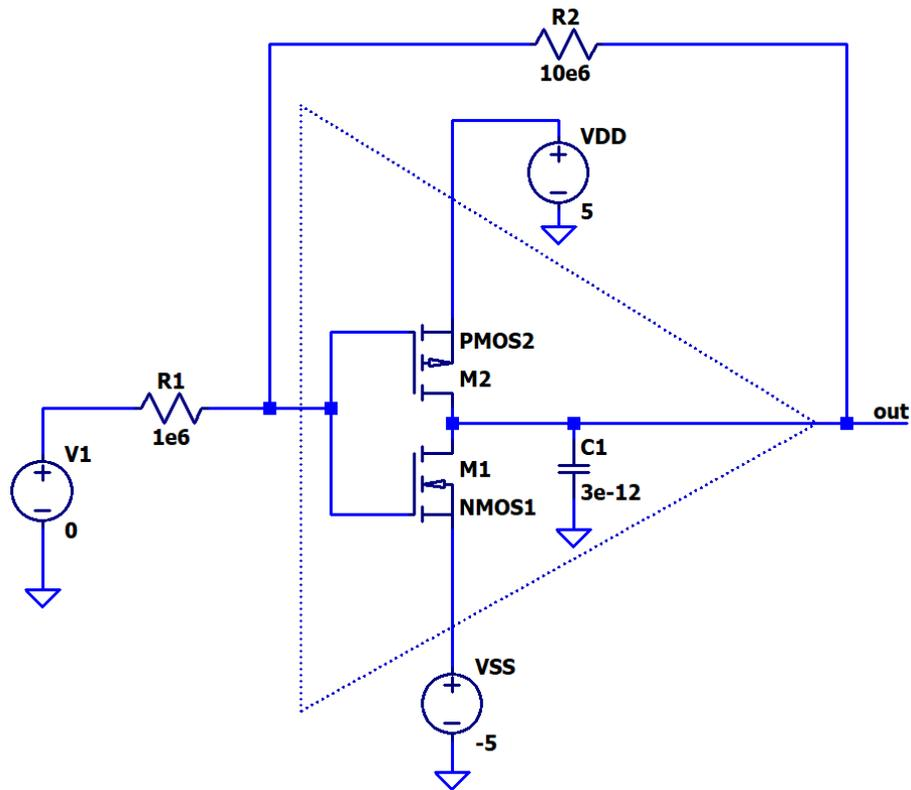

Fig. 5. Linear inverting amplifier using a digital inverter. Note that the triangle is symbolic and not part of the circuit.
- a. Draw the schematic in Fig. 5 and use the PMOS2 model. Do not draw the triangular amplifier symbol; it is not a circuit element.
- b. Generate the voltage transfer characteristic for the amplifier in Fig. 5 by sweeping V1 from  $-5\text{V}$  to  $5\text{V}$  using  $1\text{ mV}$  steps.
4. Using the open-loop amplifier's maximum gain determined in step 7, calculate the closed loop gain using the input and feedback resistors in Fig. 5. How does this value compare to the simulated gain of the inverting amplifier from step 7?